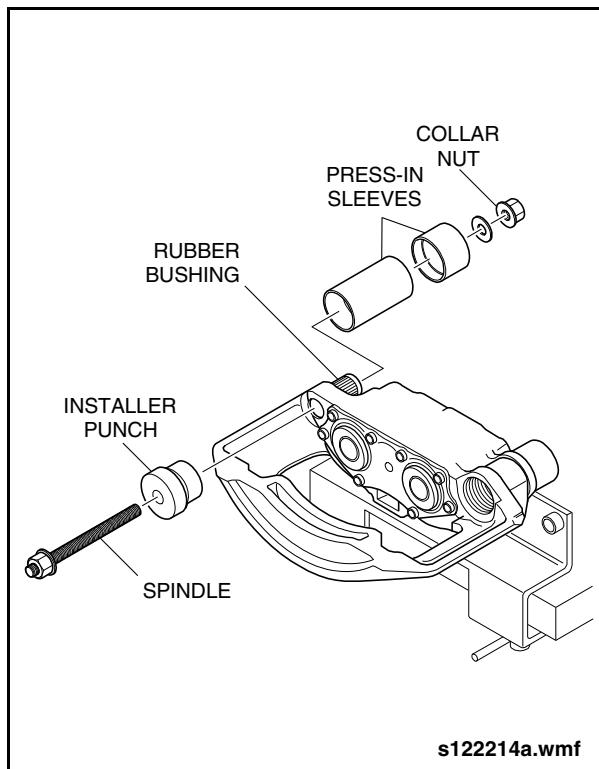

Fig. 2-126: Rubber Bushing Removal
a. Assemble and install the installer punch, press-in sleeves, spindle, and collar nut (Items 72, 77, 75, 71, & 70 from special tools list). See "Fig. 2-126: Rubber Bushing Removal" on page 112.